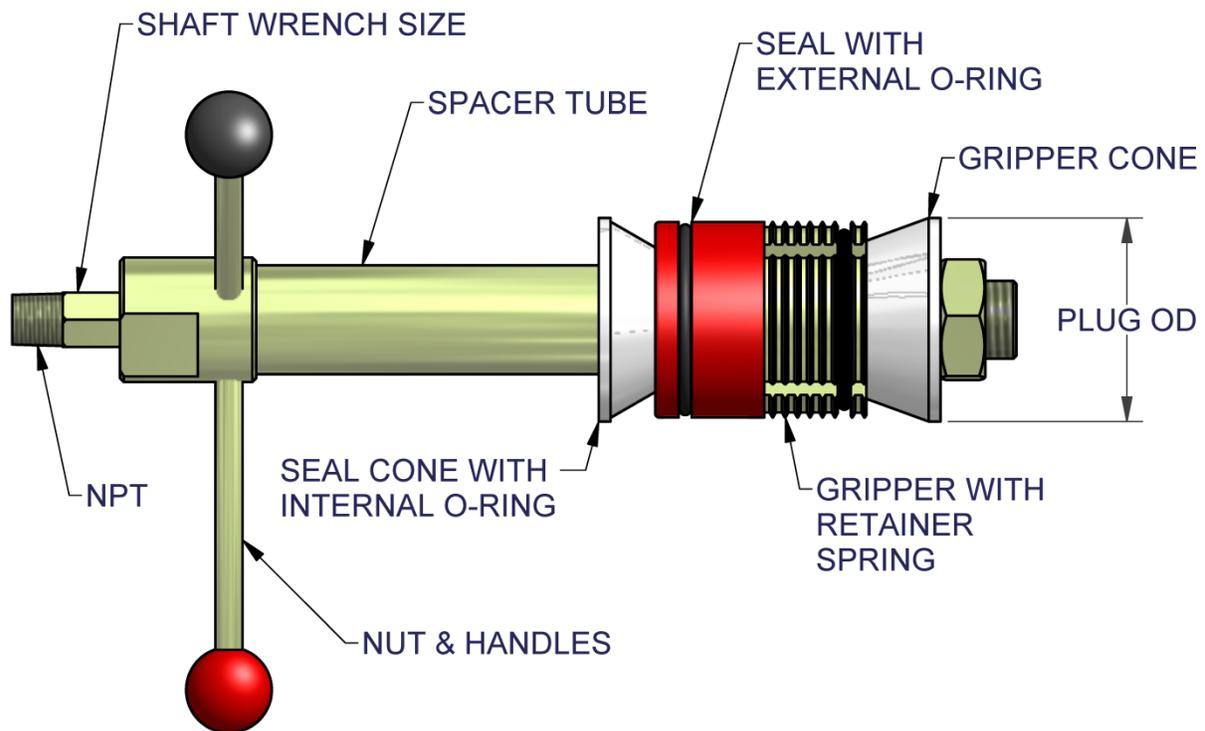

Figure 1: GripTight PE Test Plug
- ⚠ For proper operation, GripTight PE Test Plugs must be assembled as shown in Figure 1.